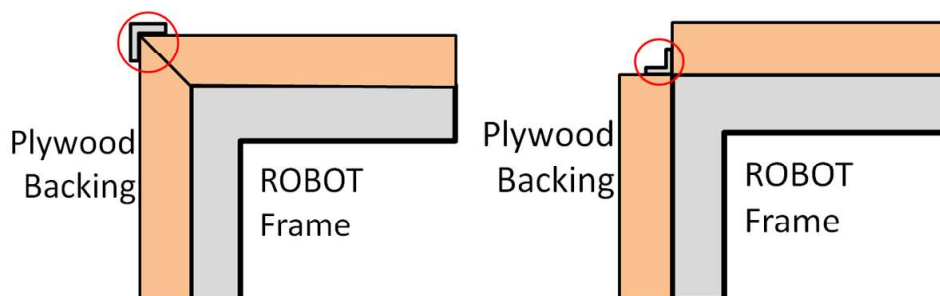

Figure 9-5 Hard Parts of BUMPER Corners
- F. optionally use metal brackets (i.e. angle or sheet metal) or other fasteners (e.g. staples, screws, adhesives, etc.) to attach BUMPER segments to each other (see Figure 9-5).